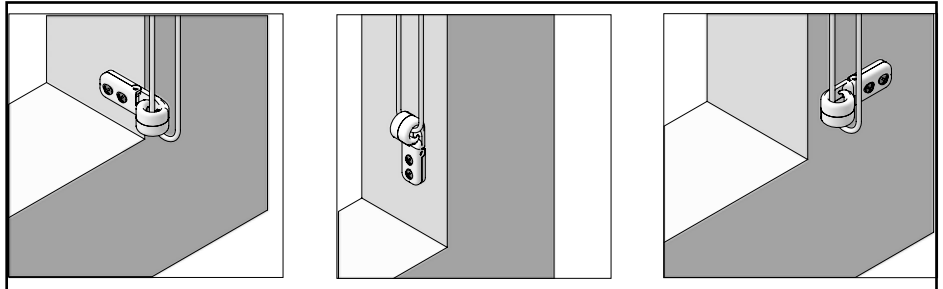

fig. 4
4. Install child safety chain tensioner to window frame or wall (fig 4) such that it does not interfere with the travel of the window shade. Once installed, chain should be taught but not under stress as it passes through the tension device.